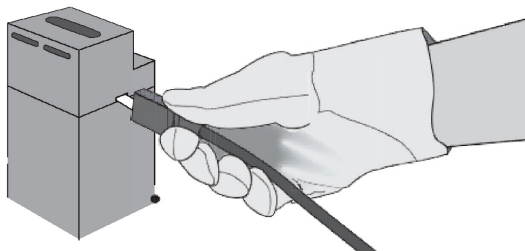

FIGURE 15
3. Attach Control Unit termination clip to ignition strip, align the strip with the ignitor strip slot and close the cover. **See Figure 15.**